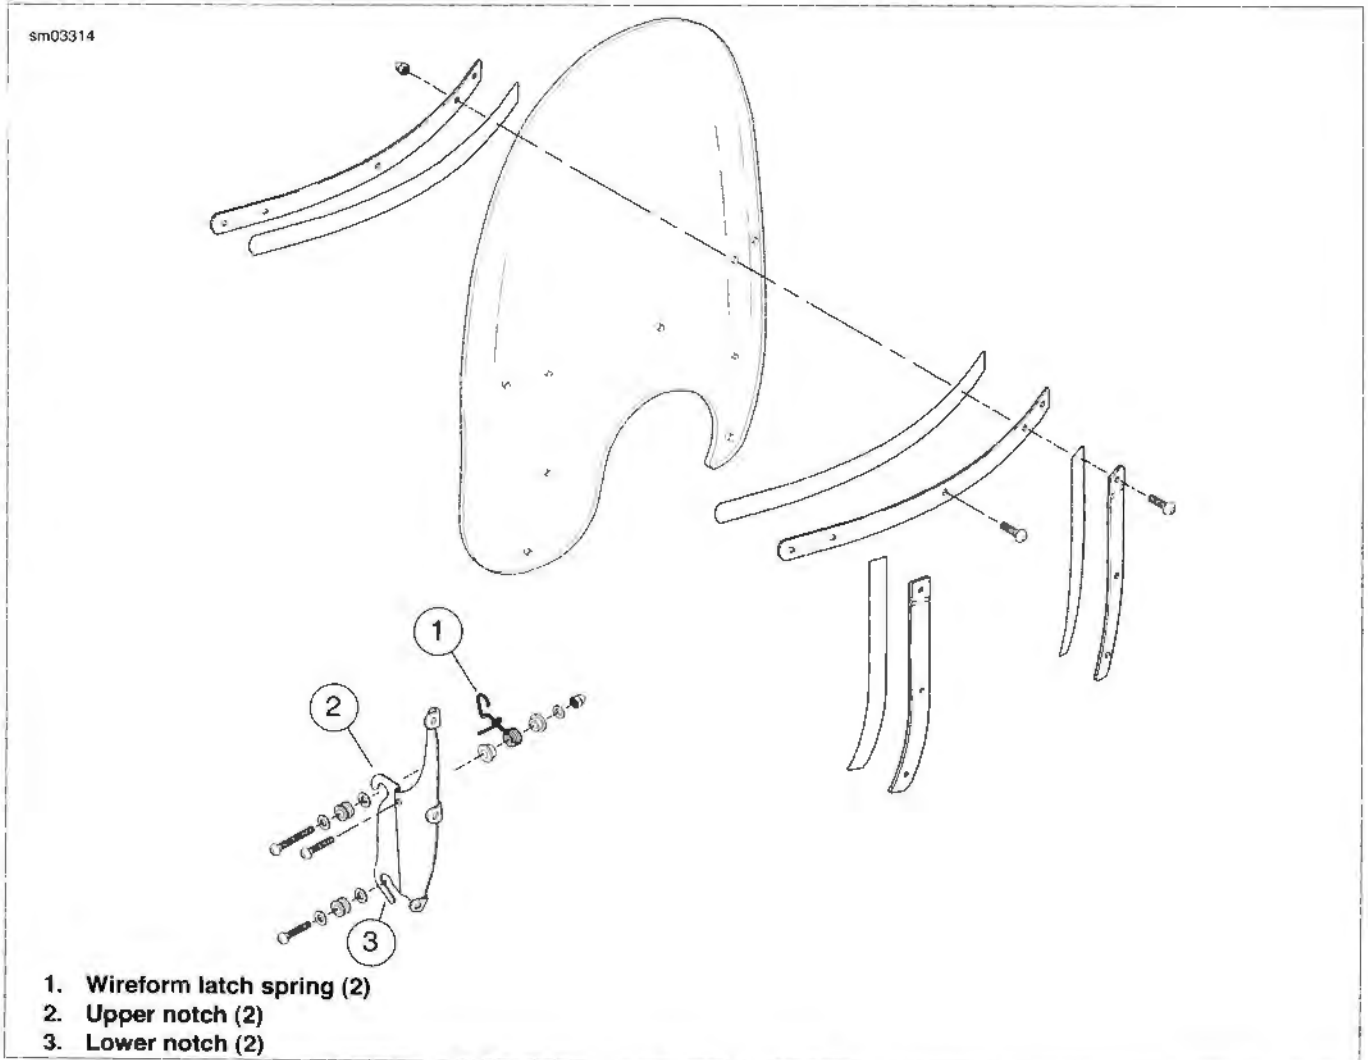

Figure 2-138. Windshield: FLSTC
1. See Figure 2-138. Use a finger to raise the wireform latch springs on each side of the windshield.
2. Standing at the front of the vehicle, gently pull the top of the windshield until the upper notches (2) on the side brackets are free of the upper grommets.
3. Carefully raise the windshield until the lower notches (3) in the side brackets are free of the lower grommets.
1. See Figure 2-138. Lower the windshield into position until the lower notches (3) are seated on the lower grommets.
2. Standing at the front of the vehicle, gently push the top of the windshield toward the rear until the upper notches (2) fully engage the upper grommets.
3. Push down on the wireform latch springs (1) so that they overhang the rubber grommets. If some adjustment is necessary, loosen the retaining bolts and rotate the latch springs into the proper position.